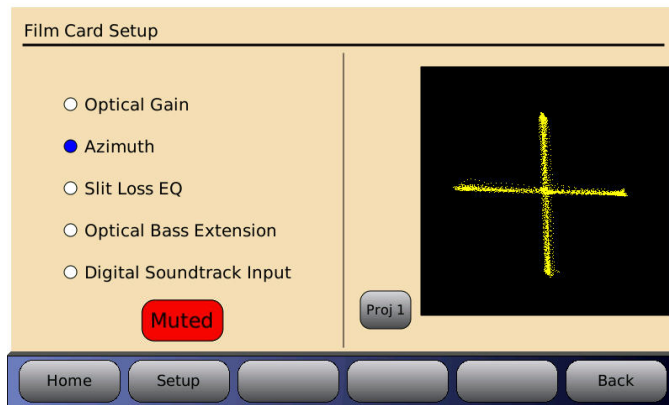

Fig 11: - Optimum LED to lens alignment
- Note: while running the CAT 97 test film you can also select Azimuth in the AP20's optical set up screen. If alignment is correct you should be able to observe a cross on the screen as shown in Fig 11. The same applies to viewing on the oscilloscope in X/Y mode.